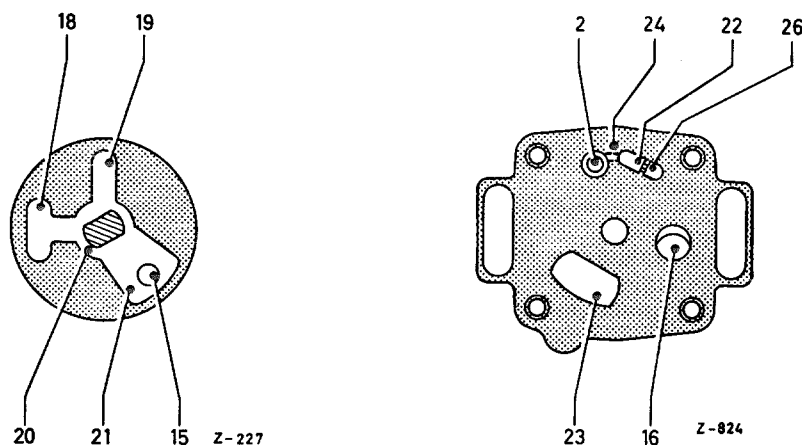

Fig. 07-0/22
When the engine is warmed up, but if the idling speed with the starter mechanism inoperative is still too low, the starter knob can be pushed in about  $\frac{3}{4}$  of the way. As a result, the starter rotary slide valve is turned toward the right as seen from warm-up position I. The chamber (19) of the slide valve is now opposite the second part (26) of the split fuel slot in the starter flange on the carburetor housing. Since this second part of the slot is connected to the first part (22) of the fuel slot only by a very fine graded bore, the amount of fuel passed from the starter mechanism is decreased still further (Fig. 07-0/22).